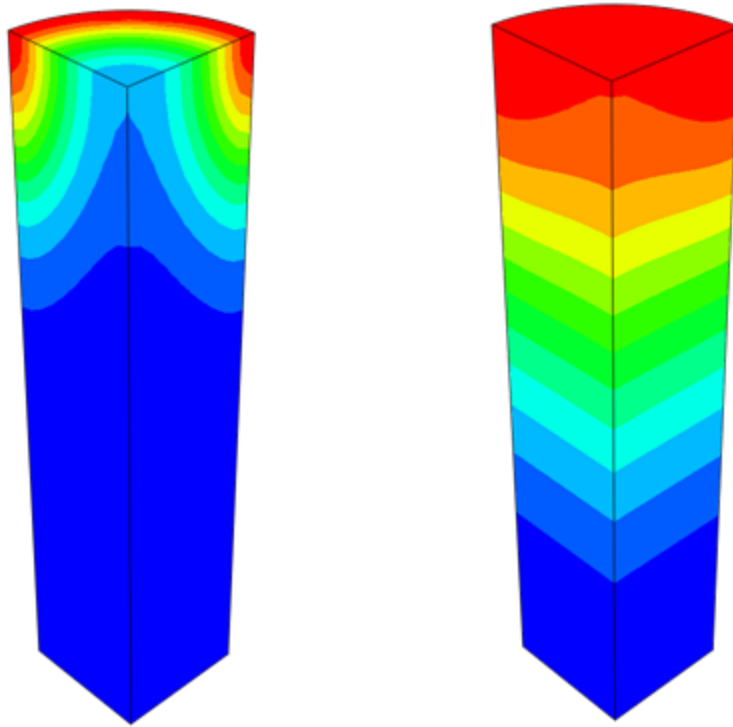

Figure W1–9 Contour plots of temperature at $t = 1\text{s}$ (left) and $t = 120\text{s}$ (right)
- The plot appears as shown in Figure W1–9.
We see from Figure W1–9 that heat generated at the center of the rod is gradually distributed throughout the rod as time progresses. The maximum temperature increase over two minutes is about 20°C .